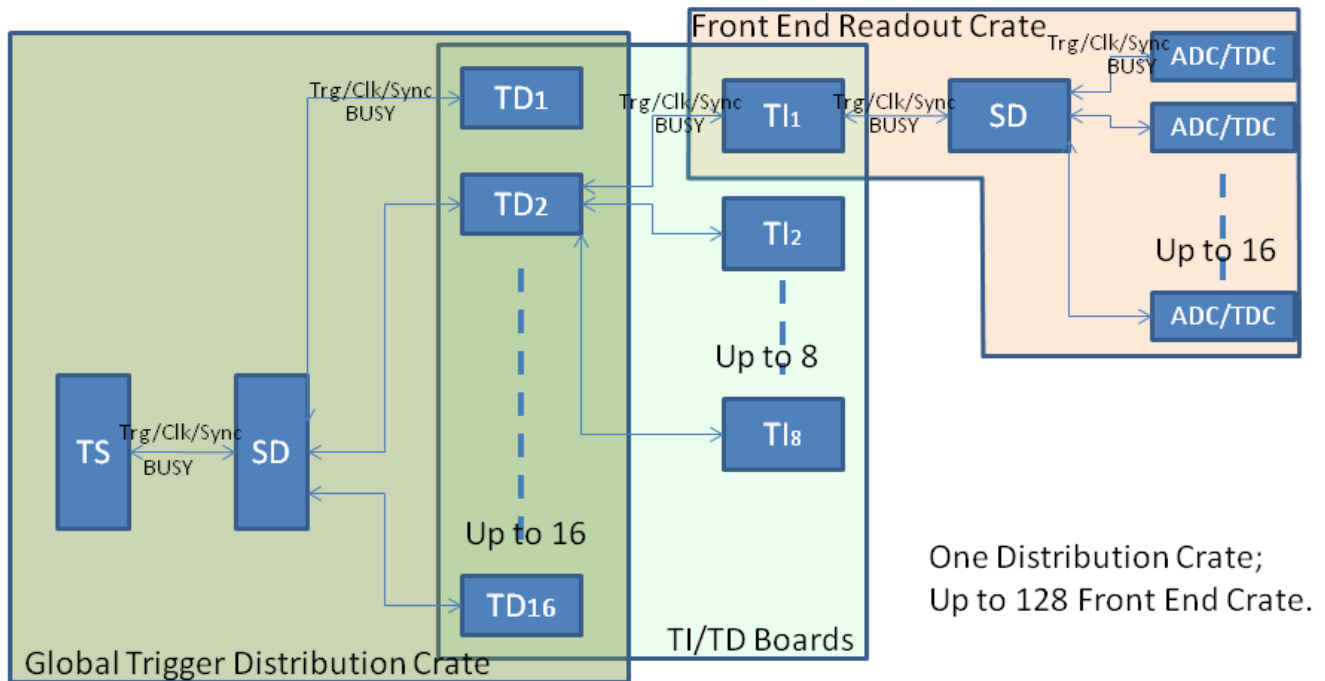

Figure 1 Trigger/Clock/Sync distribution system
The Trigger Interface (TI) module was designed for the Jefferson Lab 12GeV upgrade, mainly for Hall-D and Hall-B, with other experimental Halls compatibility. The VXS TI boards are located in data acquisition frontend crates, and are responsible for providing a low-jitter system clock, system sync signals and fixed latency trigger signals for the Front-end readout boards in the crates. The modules also merge the front-end crate status and generate a BUSY signal to request the Trigger Supervisor (TS) to pause the trigger. For the detailed description, refer to the Trigger Distribution system design document [Trigger Distribution]. The PCI express TI (Tlpcie) board is based on the VXS TI board. Instead of VME64x, the Tlpcie board is plugged into a PCI express slot in a computer, communicates through PCI express. Figure 1 shows the placement of the TI modules in the global trigger distribution scheme in experiment setup.